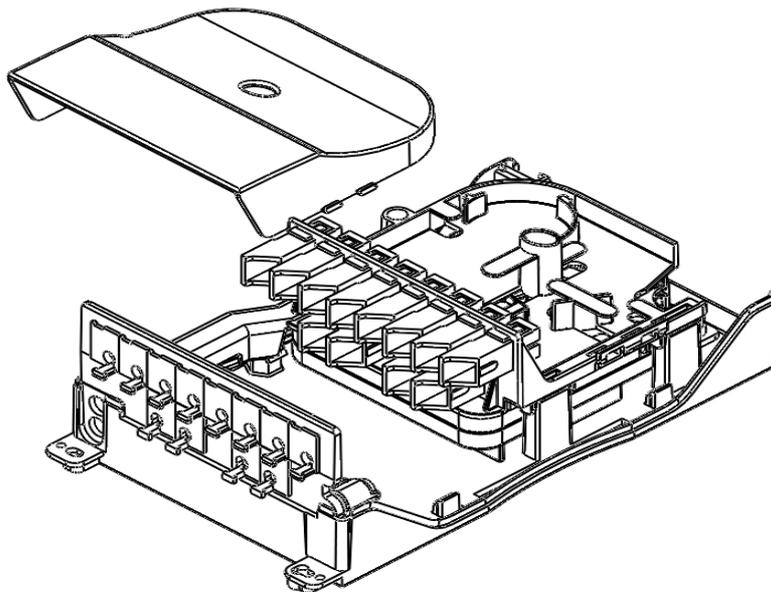
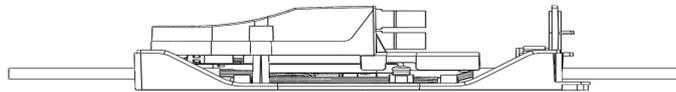

Fig. 24
Fig. 26
- 4.5.1. After making the necessary splices, close the adapter plate cover (Fig. 24 and 25). Fasten it to the inner base using the cover captive screw (Fig. 26).